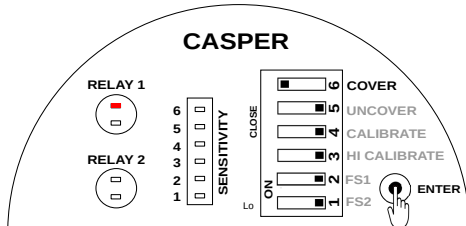

Figure 20: Setting Cover Delay
- Press and hold ENTER key as shown in Figure 20. The STATUS LED for RELAY 1 starts blinking. Blink the LED according to value of cover delay.